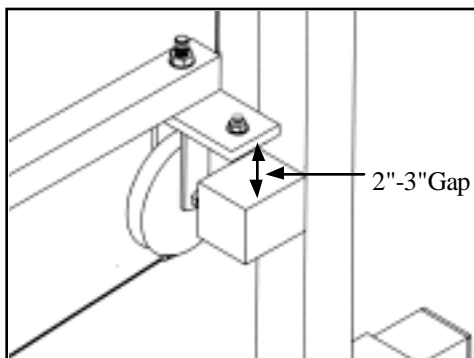

Figure 9
E. Cable Installation (Figures 9, 10, & 11)